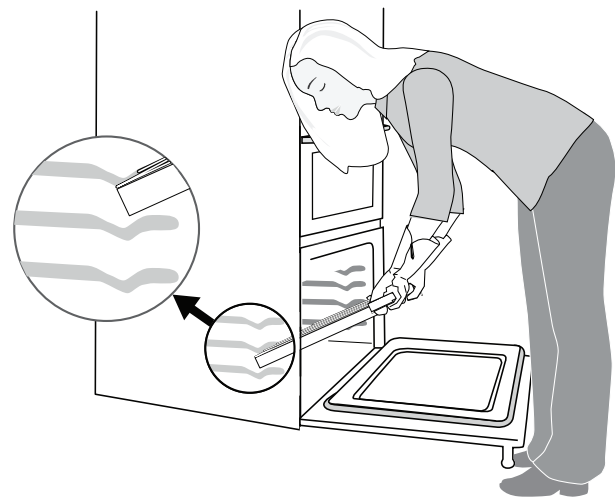

Figure 20: Removing and replacing the oven Glide Rack
3. Using both hands, grasp the upper and lower portions of the Glide Rack (Figure 20).
1. Grasp both upper and lower portions of the Glide Rack (Figure 20).